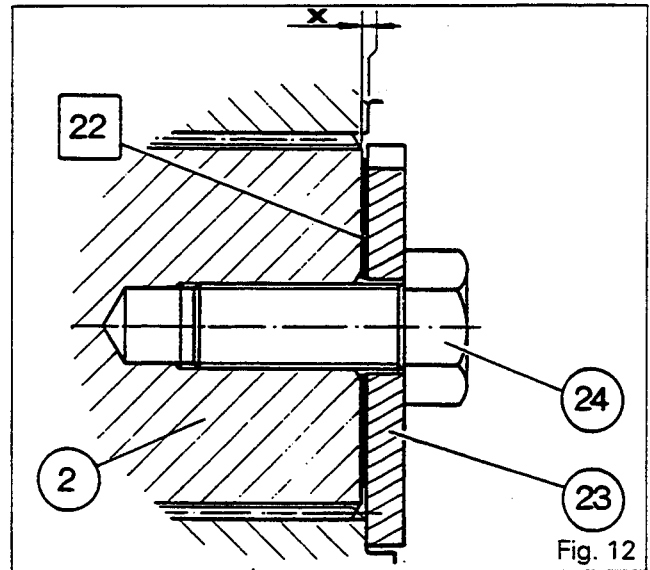
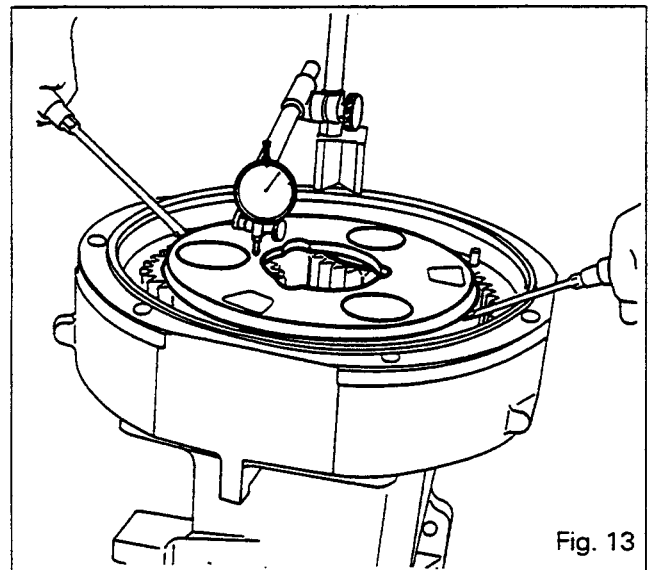

Fig. 12
Fig. 13
2. Remove the bolt (24) and the washer (23).
4. Fit shims [22] required to provide thickness greater than dimension X to obtain end play (Fig.12).
5. Fit the washer (23) and the bolt (24) and tighten to a torque of 270 - 440 Nm.
6. Using a dial gauge, check the end play by moving the planetary carrier laterally (Fig.13).
7. Remove the bolt (24) and the washer (23).